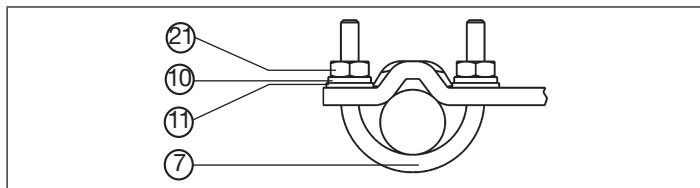

Fig. 12: Attach positioner with mounting bracket; for actuators with columnar yoke
- Attach mounting bracket to the columnar yoke with the U-bolt ⑦, washers ⑪, circlips ⑩ and hexagon nuts ⑫ (see "Fig. 12").